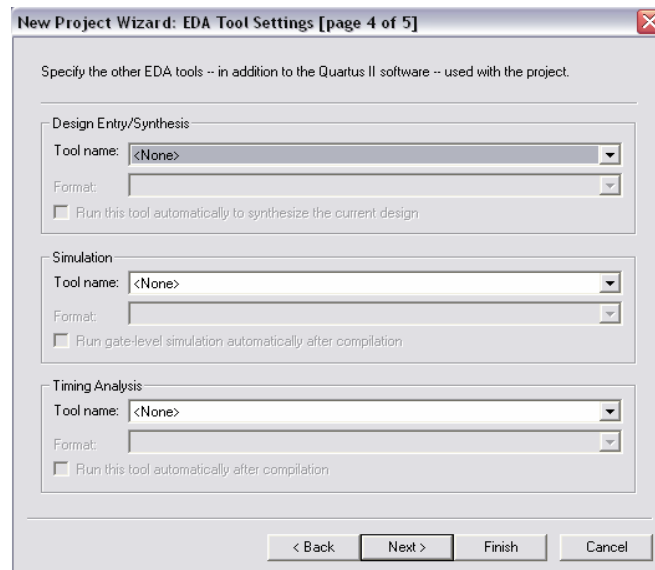

Figure 6. Other EDA tools can be specified.
4. We have to specify the type of device in which the designed circuit will be implemented. Choose **CycloneII** as the target device family. We can let Quartus II software select a specific device in the family, or we can choose the device explicitly. We will take the latter approach. From the list of available devices, choose the device called **EP2C70F896C6** which is the FPGA used on Altera's DE2 board. Press **Next**, which opens the window in Figure 6.